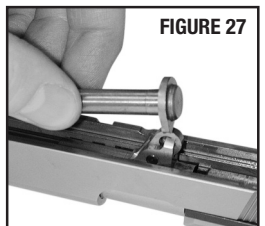

FIGURE 27
- Turn the slide bottom side up and remove the recoil spring guide rod. Move the guide rod upwards away from the barrel towards the rear of the slide. Rotate the barrel link into the up position to give the guide rod adequate clearance for removal (FIGURE 27).